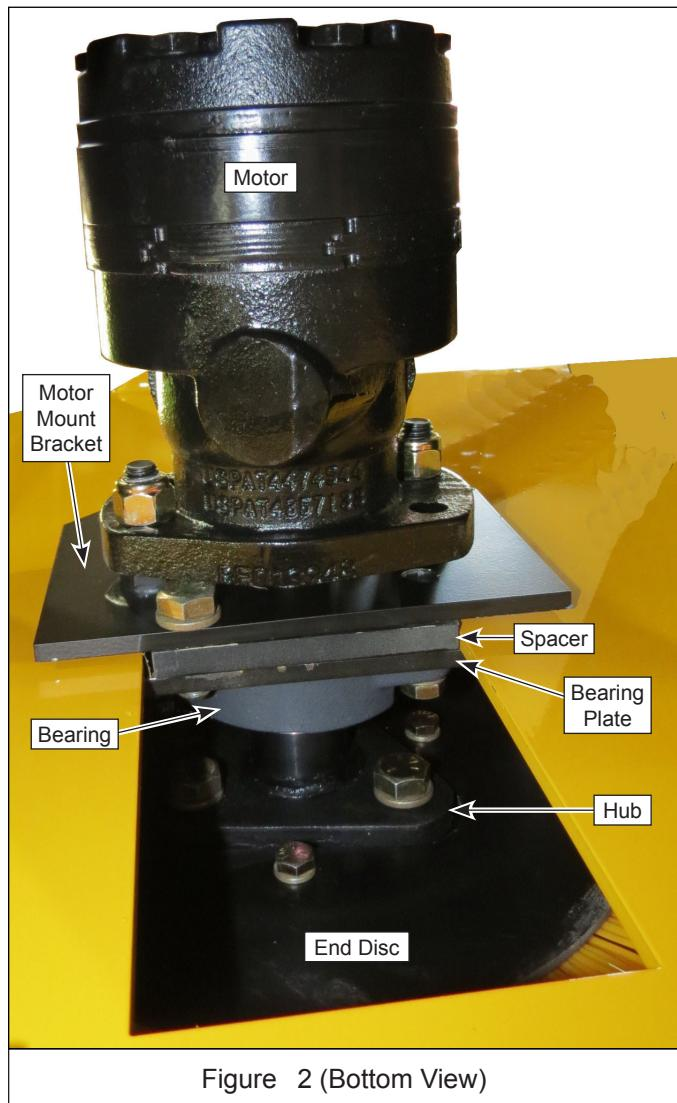

Figure 2 (Bottom View)
- Remove (2) 1/2"-13 lock nuts and motor from mount bracket. Slide motor out of mating splined hub. Let motor hang on hoses. Retain mounting hardware. See Figure 2.
2. Remove (3) 1/2-13 x 1" capscrews, lock washers and splined hub from end of core. Retain hub and mounting hardware. See Figures 2 and 3.
3. Remove (3) 5/16-18 x 3/4" capscrews, lock washers and end disc (wafer retainer plate) from end of core. Retain end disc and mounting hardware. See Figures 2 and 3.
4. Install end disc on core with original hardware. See Figures 2 and 3.
5. Install splined hub on core with original hardware. See Figures 2 and 3.
5. Insert spacer between inner plate and outer bracket so that all holes align. Install original (3) 1/2-13 x 1" hex head capscrews and lock washers to secure outer bracket and spacer to inner plate. See Figure 2.
7. Slide motor shaft into mating splined hub and secure motor to outer plate with (2) 1/2"-13 lock nuts. See Figure 2.